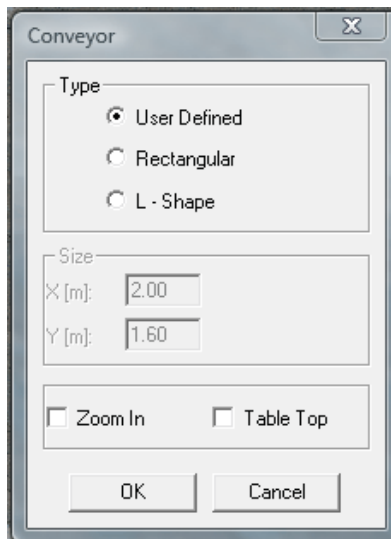

Figure 109: Conveyor Dialog Box
2. From the General tree, select Conveyor and then click OK. The Conveyor dialog box is displayed, as shown in Figure 109: Conveyor Dialog Box.
2. From the **General** tree, select **Conveyor** and then click **OK**. The Conveyor dialog box is displayed, as shown in Figure 109: Conveyor Dialog Box